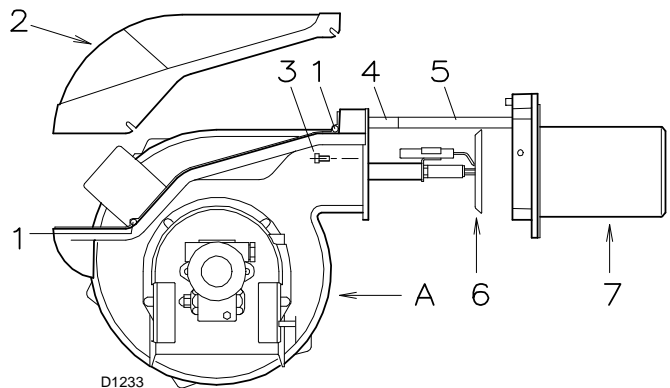

Fig. 37
- Loosen screws 1)(Fig. 37) and withdraw the cover 2).